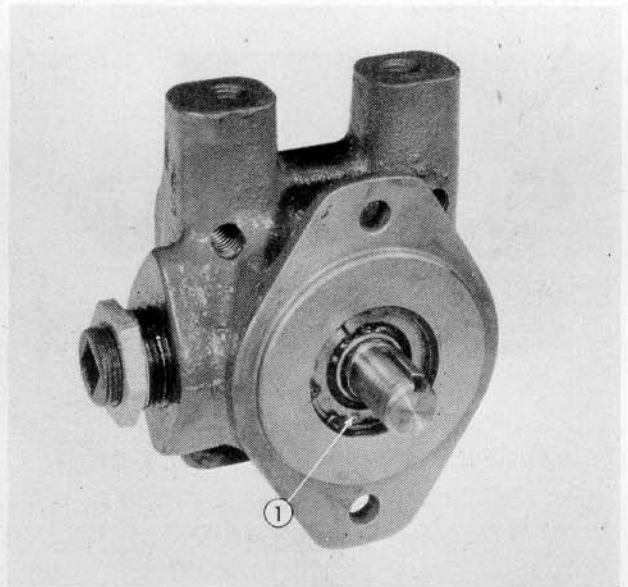

Fig. 32
Step 9—Remove the snap ring (1—Fig. 32).
- a. Press bearing (10), into pump body (9).
- b. Install spacer (11), in pump body.
- c. Press oil seal (12), into pump body. Be sure sealing lip faces out.
- d. Using an arbor press, install bearing (14), on splined shaft (13).
- f. Install snap ring (15), in place. See Step 9, Fig. 32.
- a. Install "O" Ring seal (7), in pump body.
- b. Install pins (8), in pump body.
- c. Install rotor assembly (6), on splined end of shaft.
- d. Install ring (5), in place on locating pins.